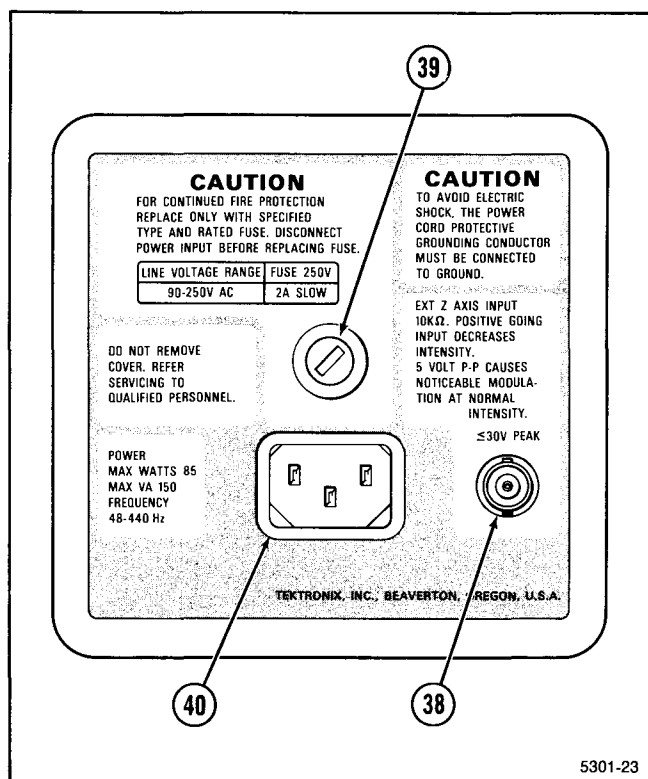

Figure 2-9. Rear Panel.
Refer to Figure 2-9 for the location of items 38 through 40.